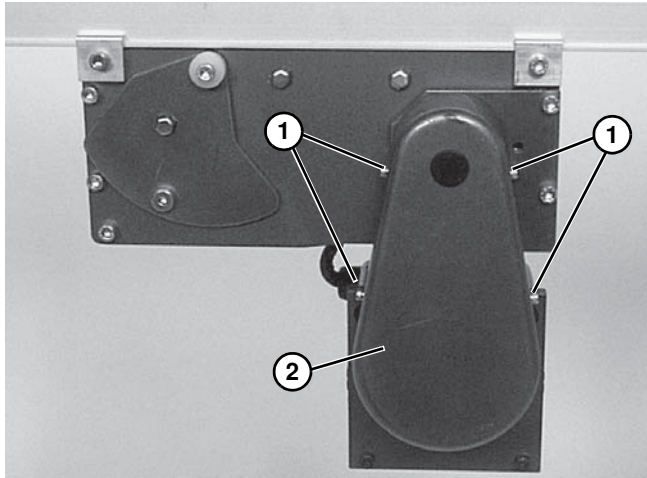

Figure 34
1. Remove cover screws (**Figure 34, item 1**) and remove cover (**Figure 34, item 2**).